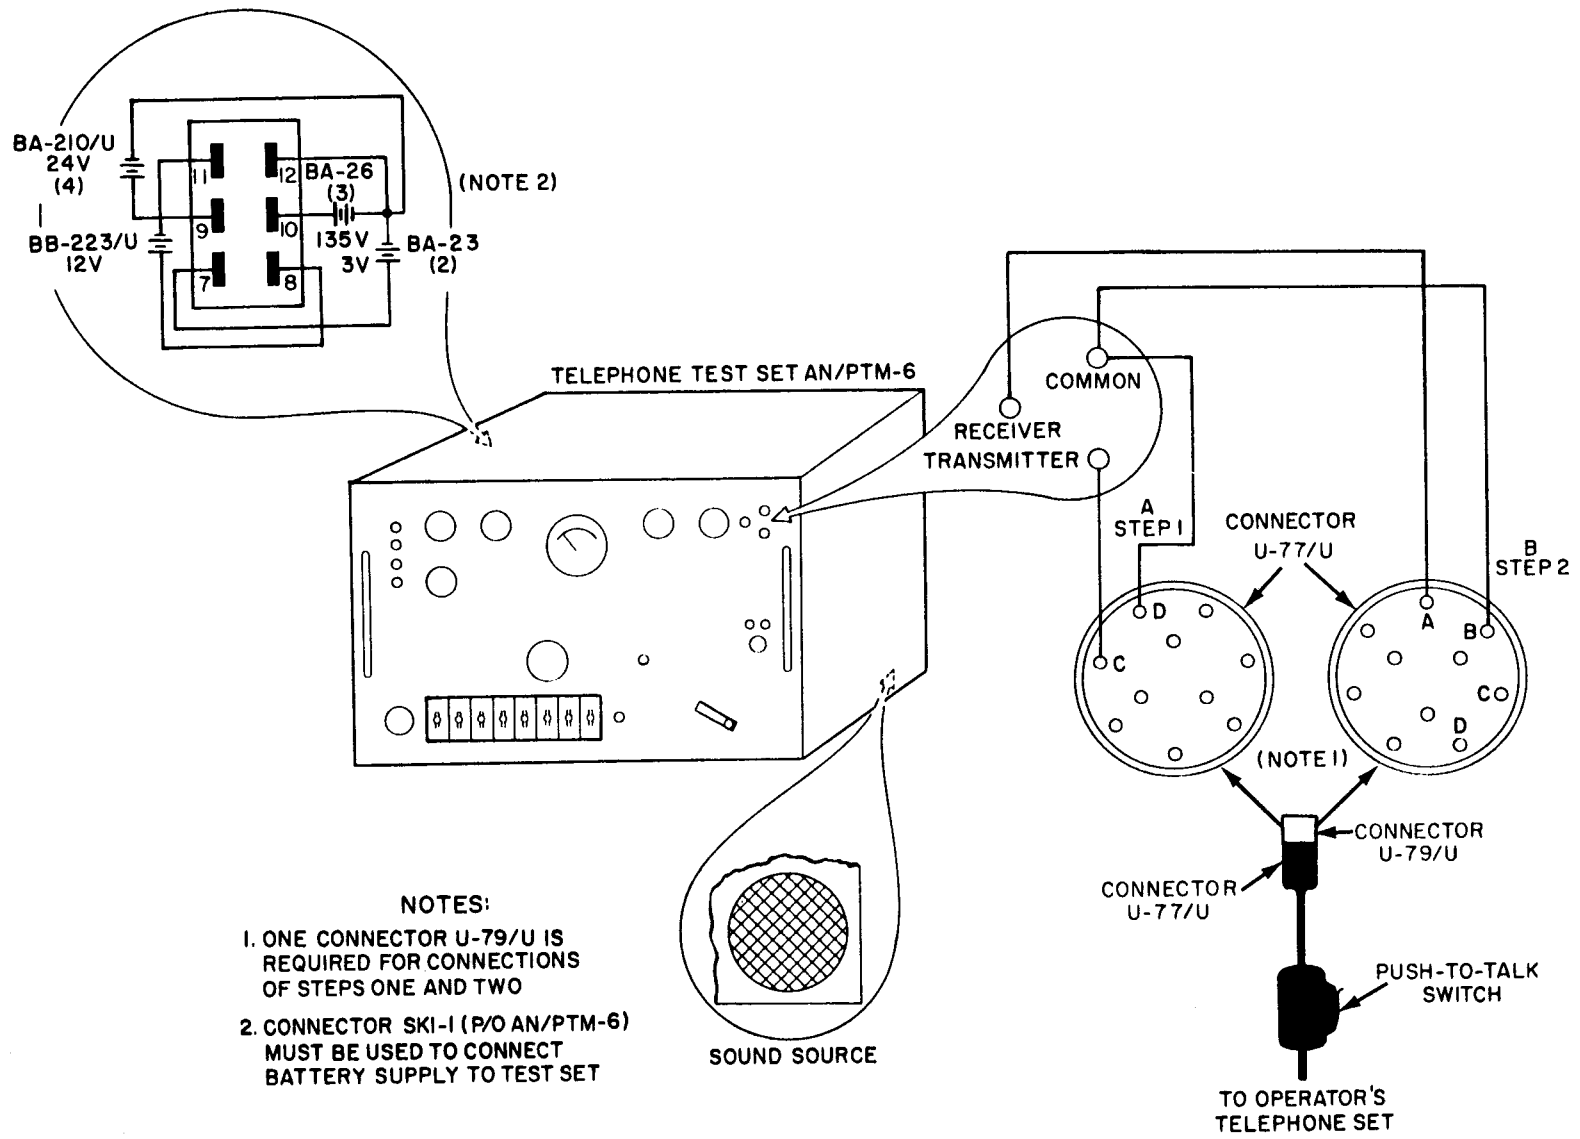

Figure 3-5. Operator's Telephone Set, Efficiency Test Setup.
- (1) Telephone Test Set AN/PTM-6.
- (2) Battery BA-23 (two each).
- (3) Battery BA-26 (three each).
- (4) Battery BA-210/U (four each).
- (5) Battery BB-223/U.
- (6) Receptacle Connector U-79/U.
b. *Test Connections and Conditions.* The efficiency of the operator's telephone set is tested with it disconnected from the switchboard. Connect the equipment as shown in A, figure 3-5, for the procedure in step no. 1 of table 3-6 below, and as shown in B, figure 3-5, for the procedure in step no. 2 of table 3-6 below.
(1) Check the battery voltages as follows: